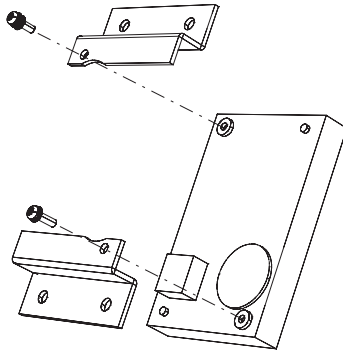

Figure 2 Z-Bracket Subassembly
4. Assemble each Z-Bracket (qty. 2) to the backside of the Digital Operator (not included in kit). Use the provided M3x6 screws and tighten to 7 lb-in (0.79 Nm). Refer to Figure 2.